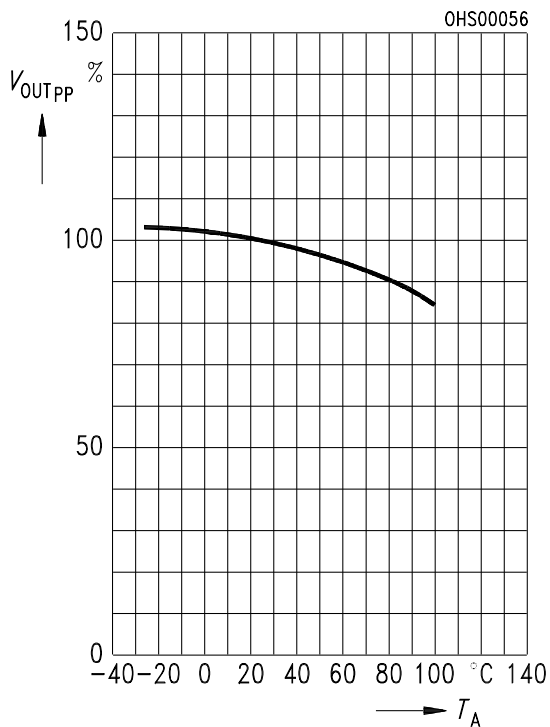

**Fig. 2**
5) Corresponding to measuring circuit in **Fig. 3** and arrangement as shown in **Fig. 2**